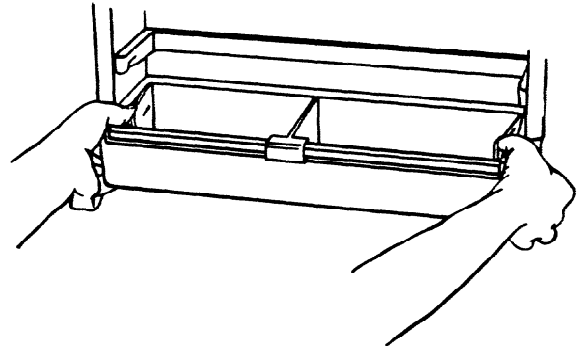

Figure 46
c. Move bucket by holding lock tabs in and pulling bucket straight out. See Figure 46.